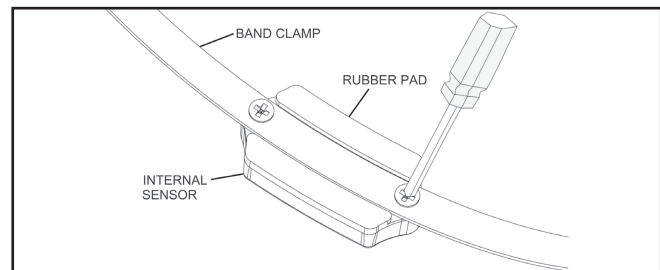

Figure 1: Internal Sensor Rubber Pad
3. If the sensor is not already attached to the band, attach the sensor to the band clamp with the two screws. Torque the screws to 10-12 in-lbs (1.1-1.4Nm) See Figure 1.